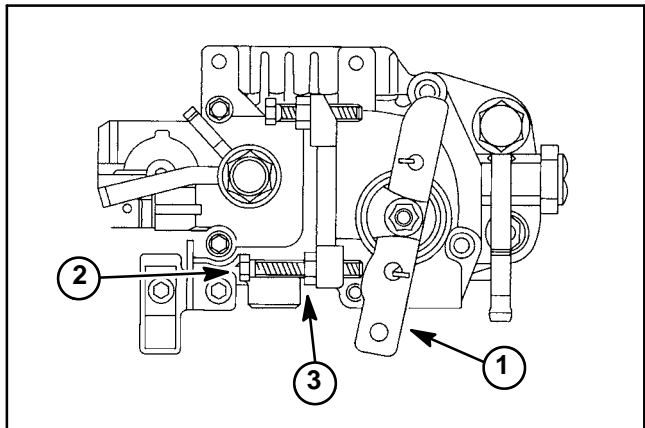

Figure 3
7. If high idle speed is incorrect, adjust high speed screw on fuel injection pump (Fig. 3).